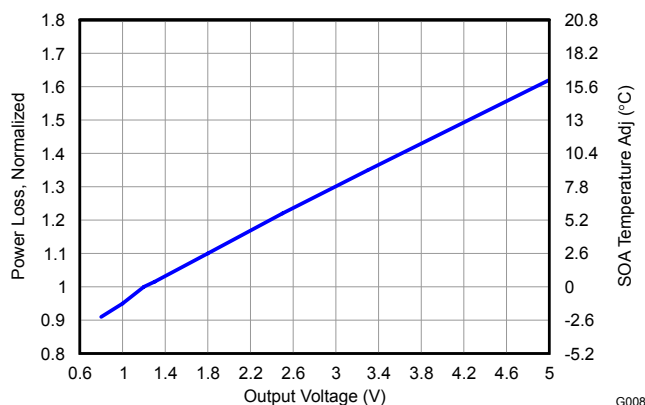

Figure 14. Normalized Power Loss vs Output Voltage
- Normalized Power Loss for output voltage ≈ 0.95 (Figure 14)
- SOA adjustment for output voltage $\approx -1.3^{\circ}C$ (Figure 14)